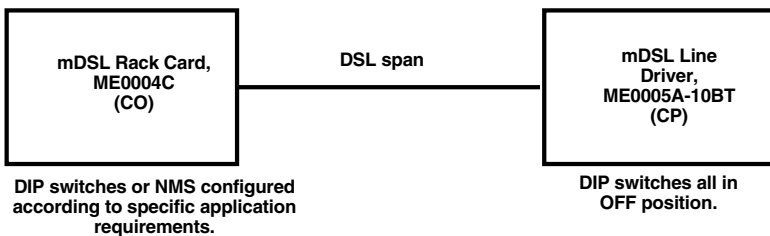

Figure 4-1. Typical plug-and-play application.
1. Set the mDSL Rack Card (CO) to either Internal or External clocking mode as defined by the application.
2. Set the mDSL Line Driver (CP) to “Plug-and-Play CP” by setting all S2 and S3 DIP switches in the OFF position as described in Figure 4-1.